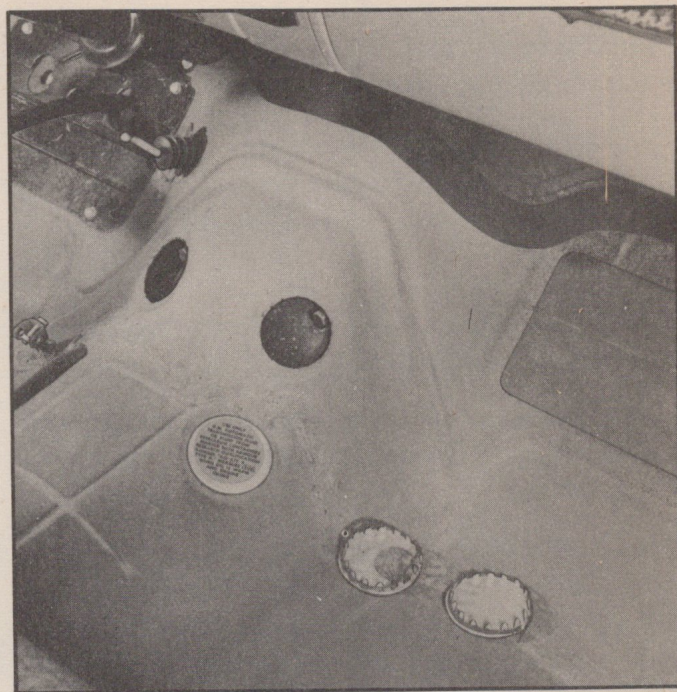

Fig. 102—Floor Hole Covers Removed
4. Remove floor hole covers over rear flywheel housing upper bolts (Fig. 102).